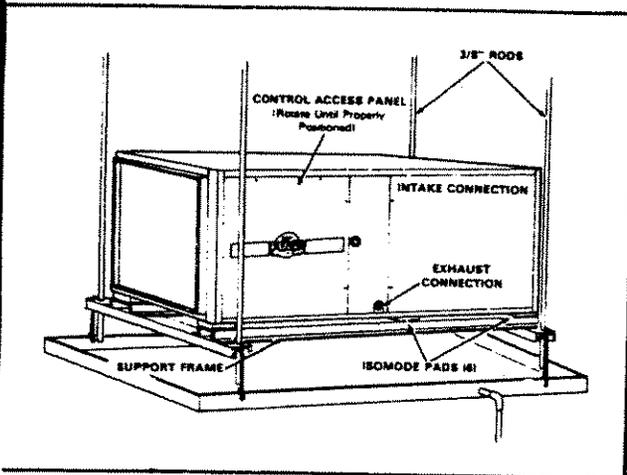

FIGURE 8
- 5 - Mount unit on support frame and slide six Isomode pads into place between cabinet and frame as shown in figure 8. Unit must be level to ensure proper coil drainage. Replace blower if it was removed during hoisting.
- 7 - Hang drain pan below support frame as shown in figure 8.
- 2 - After positioning cement blocks, mount support frame kit (ordered separately) on top of blocks and install unit on frame. Slide six isomode pads between cabinet and support frame (See figure 8). Unit must be level to ensure proper coil drainage.